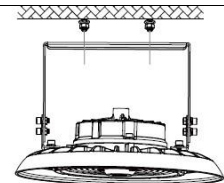
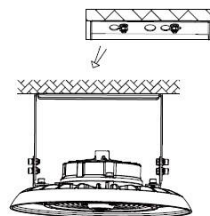

Figure 4
Figure 5
3. Align the bracket holes with the screw holes (Figure 4), and push the fixture to one side (Figure 5).